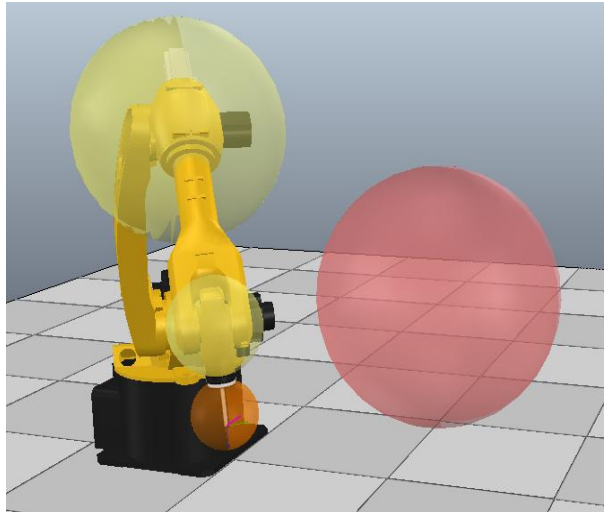

Figure 6-75 Robot's "Axis Envelope" and "Tool Envelope" boundaries are outside the prohibited zone
- Step3. When both "Tool Envelope" and "Axis Envelope" are enabled, it can be seen from Figure 6-75 that the robot's "Axis Envelope" and "Tool Envelope" boundaries are within an interval without warning outside the prohibited zone "Sphere".